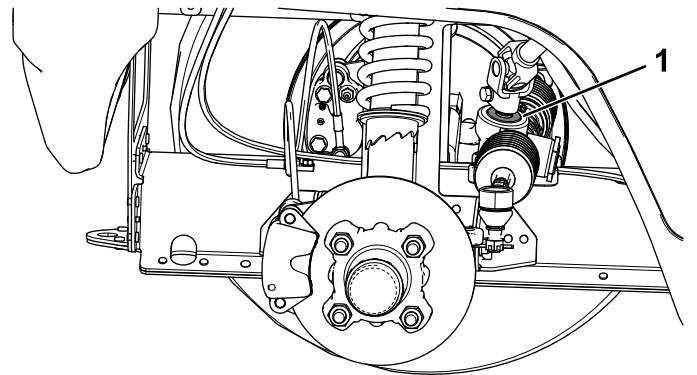

Figure 50
**Important:** Inspect the condition and security of the pinion-shaft seal (Figure 50).